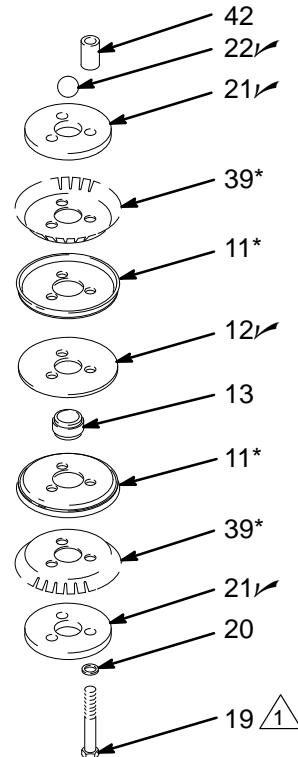

Fig. 4
3. Loosen the packing nut/wet-cup (1). Unscrew and remove the four tie bolts (30) and lockwashers (31). Pull the intake valve housing (14) off the pump.
4. Remove and inspect the intake valve gasket (17). Unscrew the retainer and seat assembly (16) from the intake valve housing (14). Remove the ball stop pin (18), noting which holes it is in. Remove the intake valve ball (15). *Handle the ball carefully as it can be easily damaged.*
5. Clean all parts of the intake valve and inspect carefully for wear or damage. Inspect the seat (C) of the retainer and seat assembly (16), but do not attempt to remove it. If the seat is worn or damaged, replace the entire retainer and seat assembly.
6. Pull the pump cylinder (9) straight off the outlet housing (24), being careful not to tilt it until it is clear of the displacement rod (8) and piston assembly (B).
7. Inspect the polished inner surface of the cylinder (9) for scoring, wear or damage by running a finger over the surface or holding the part up to a light at an angle. Replace if necessary.
8. Remove the three screws (19) and washers (20), and disassemble the piston. *Be very careful when handling the ball (22) and seat (13) as they can be very easily damaged.* Clean all parts and inspect carefully for wear or damage. See Fig. 4.
9. Unscrew the packing nut/wet-cup (1) from the outlet housing (24). Pull the displacement rod (8) down out of the outlet housing. Remove and inspect the outlet housing gasket (7).
10. Push the throat packings and glands (A) out of the outlet housing (24). Clean the outlet housing and throat packings, and inspect for wear or damage.
11. Inspect the polished outer surface of the displacement rod (8) for scoring, wear or damage by running a finger over the surface or holding the part up to a light at an angle. Replace if necessary.
12. **Do not disassemble the displacement rod assembly unless necessary.** Before disassembling, carefully measure how far the adjustable plunger rod (23) protrudes from the lower cap (10). This determines the amount of piston ball (22) travel. Screw the plunger rod (23) out of the displacement rod assembly, and inspect the o-rings (3) in place. Disassemble the upper and lower caps (27, 10) from the displacement rod (8). Inspect the o-rings (4) in place.
- 2 See Fig. 4.
5. Place a washer (20) on each of the three screws (19). Assemble the piston as shown for your pump model (see Fig. 4). Place the piston valve seat (13) in the center of the piston assembly so its lip bottoms out. Continue stacking the parts on the screws (19) as shown. Place the piston ball (22) on the seat (13).
6. Place a piston spacer (42) on each of the screws (19). Apply thread sealant to the screws and screw the piston assembly into the lower cap (10). Torque the screws (19) to 240–300 in-lb (27–34 N.m). See Fig. 4.